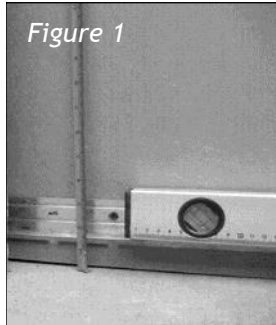

Figure 1
After placing the Start Strip, set the outside corner piece against the corner and down into the strip. Using the screw guides, place at least 3 screws along the top tongue and 2 screws at the right lap side of the corner where indicated. (fig. 1)
**Metal Starter Strip** - Determine at what height above grade level you want the panel to sit. Measure up 2 ½" to 3" from that point and strike a level line. (fig. 1)